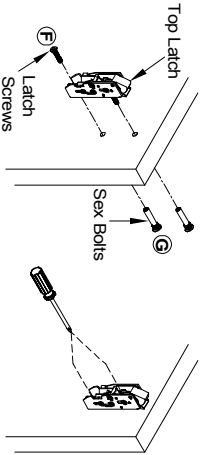

Figure 1
1. Install top latch with two(2) screws (sex bolts). Adjust strike so that device latches without binding. See Figure 1